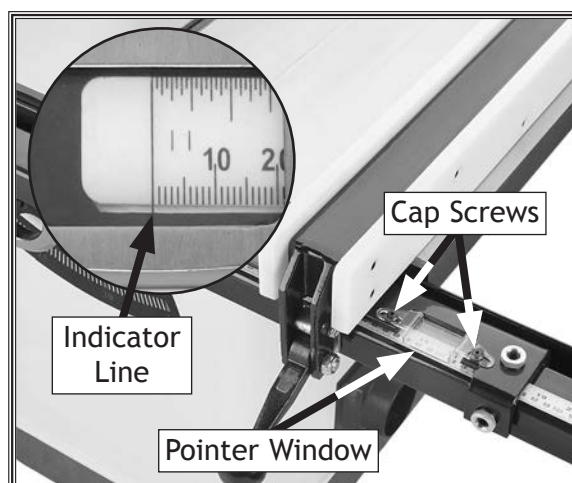

Figure 22. Fence pointer window alignment.
- If you need to correct the position of the indicator line, loosen the screws on the pointer window, adjust it so that the line is over the zero line on the scale (see **Figure 22**), then re-tighten the screws.